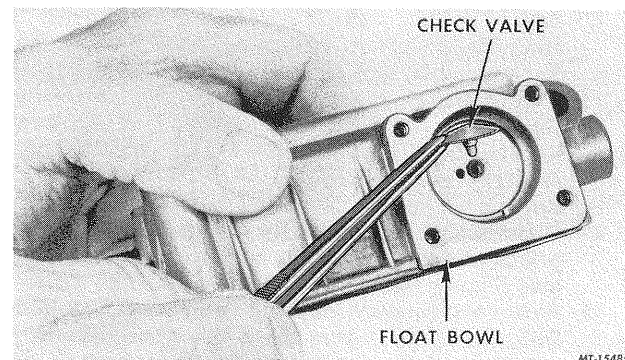

FIG. 32 Removal or Installation of the Plastic Pump Intake Check Valve
13. Remove the plastic accelerator pump inlet check valve (Figure 32). **THE BALL TYPE INLET CHECK VALVE IS NOT REMOVABLE.**
1. Install plastic accelerator pump check valve in fuel bowl (Figure 32) (if used).